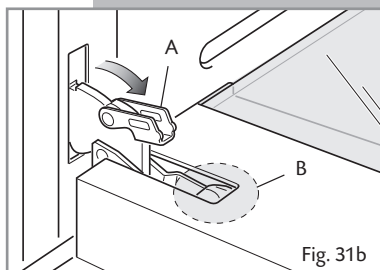
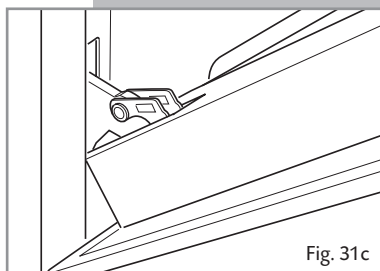

Fig. 31b
Fig. 31c
- Open the lever **A** completely on the left and right hinges (fig. 31b).
- Gently close the door (fig. 31c) until left and right hinge levers **A** are hooked to part **B** of the door (fig. 31b).